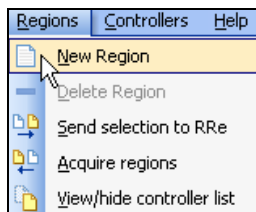

Figure 33.2.0
1. In the toolbar of the IR-Interface window select **Regions** and scroll down to **New Region** and click on it (Figure 33.2.0).